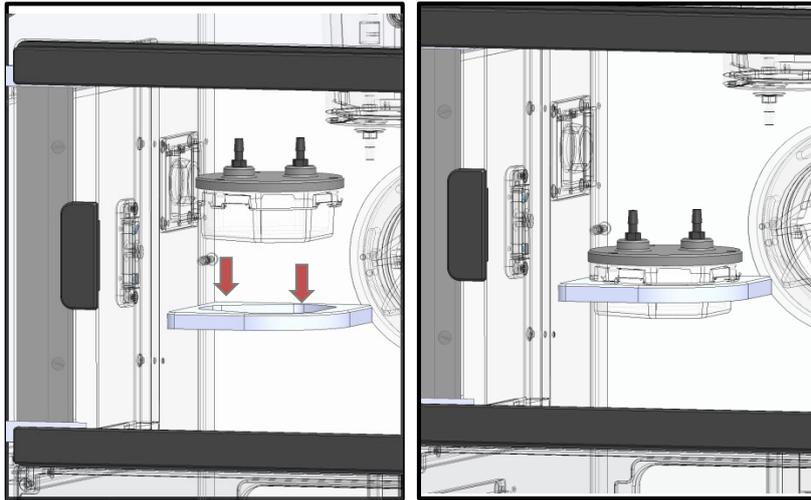

Figure 59. Water Trap inserting in the appropriate slot
- B. **Water Trap (included in HM-VF) positioning inside the enclosure.** You can insert this part of the HM-VF or before mounting the frontal panel or after have mounted the frontal panel simply opening the slide door on the left panel of the enclosure. See Figure 59.